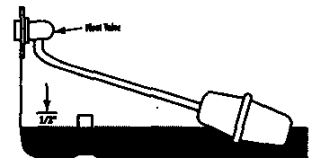

FIGURE 9
- Adjust float valve by bending the rod (see Figure 9).